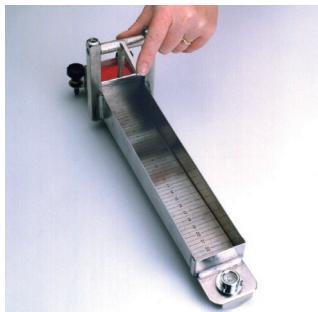

Figure 2
2. Release the gate by pressing the lock release lever, (the spring action ensures it opens instantaneously. (Fig.2)